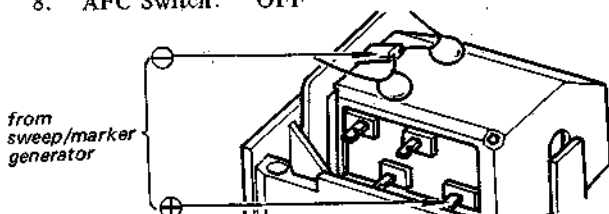

Fig. 3-1. Sweep/marker generator connection
1. Sweep/marker Generator Connection: Across the tuning capacitor as shown in Fig. 3-1.